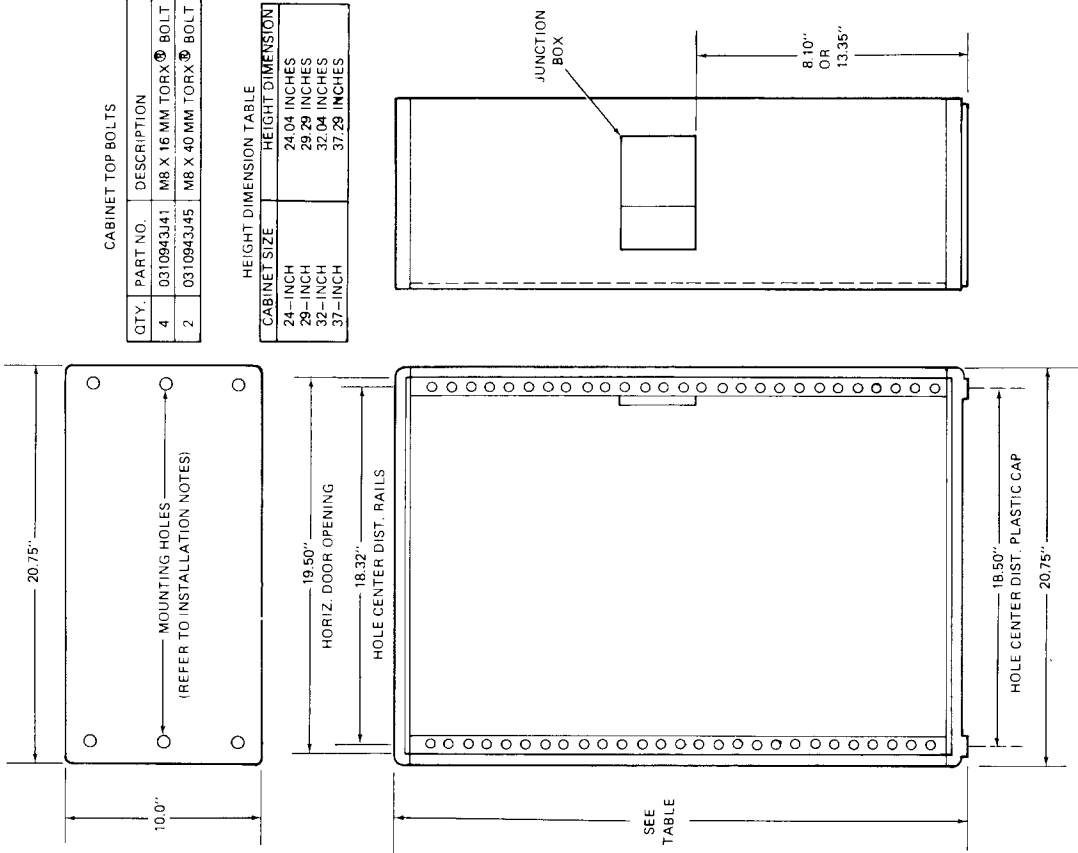

Figure 1. Cabinet Dimensional Details
5.4 Refer to Figure 1 for mounting and stacking details.